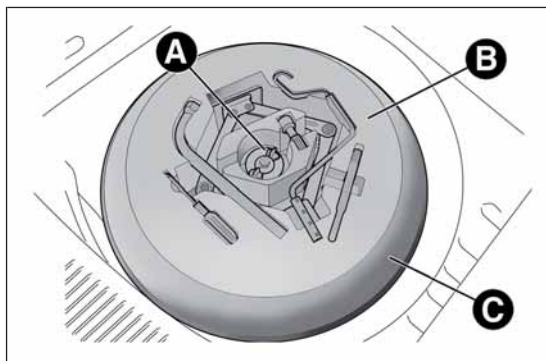

fig. 115
- unscrew locking device A fig. 115, take toolbox B and bring it next to the wheel to replace. Then take the space-saver wheel C;